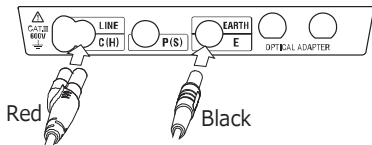

Fig. 7-1
- (2) Connect the test leads as Fig. 7-1 shows.